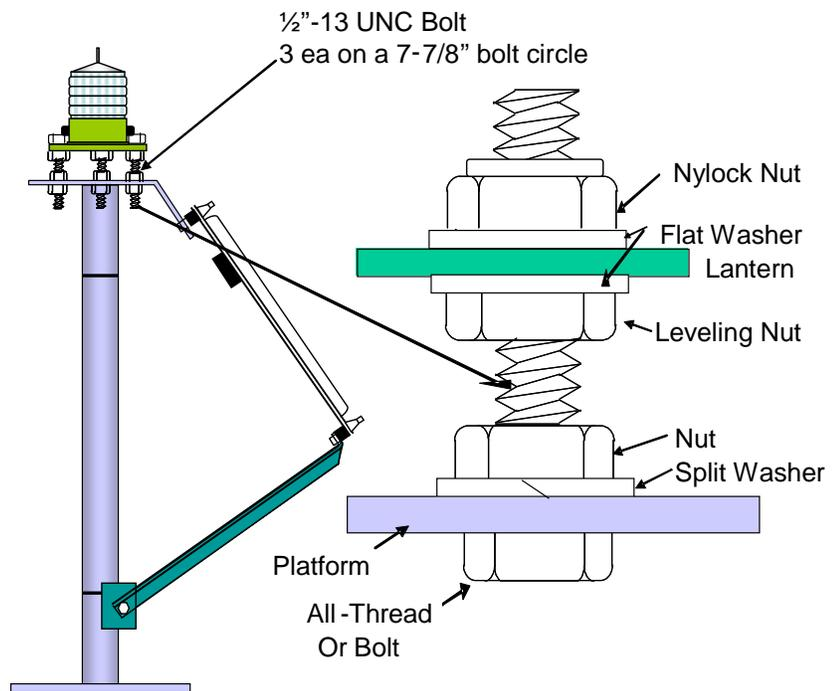

Figure 3-24. Installation – Structure
- c. On structures, secure three 1/2" stainless steel bolts (or all-thread) to the structure's mounting plate as shown in Figure 3-24. Install three jam nuts and flat washers on the bolts so that about 1" of thread is exposed. Place the lantern on top of the leveling nuts, and then install the flat washer and Nylock nuts at the very upper end of the thread. Do not tighten these uppermost nuts – they are positioned at this time to ensure that the lantern doesn't fall off. Level the lantern on structures by adjusting the leveling nuts (use a torpedo level on the top of the lens or base plate of the lantern, whichever is flat) - use the "T" method. When the lantern is level, tighten the Nylock nuts.